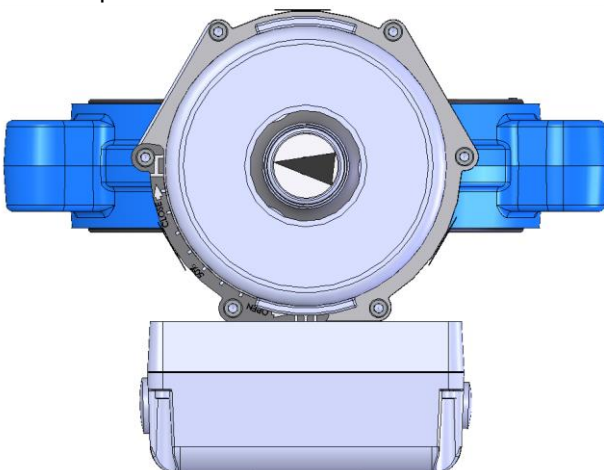

Fig. 10: Correct orientation of actuator.
**Note:** In order to achieve optimal functionality of valve position indicator, actuator should be positioned as shown in Fig. 10 below.